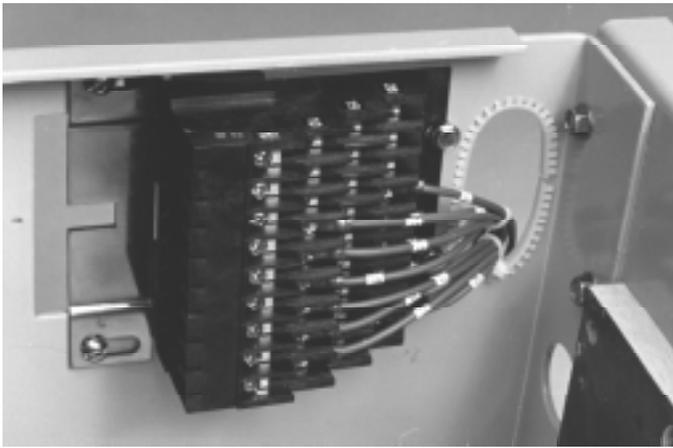

Figure 9. Wiring attached to the Secondary Disconnect block and routed through the hole in the Type 2 enclosure side wall.
4. Move the mounting slide back to capture the Secondary Disconnect mounting feet, as shown in Figure 9. Tighten the two mounting screws to 32 lb-in. The heads of the screws holding the rear bushings capture the Secondary Disconnect mounting slots.
5. Install the wiring to the Disconnect block, beginning with the rear row. Route the wires out through the grommeted wire-exit hole, as shown in Figure 9.